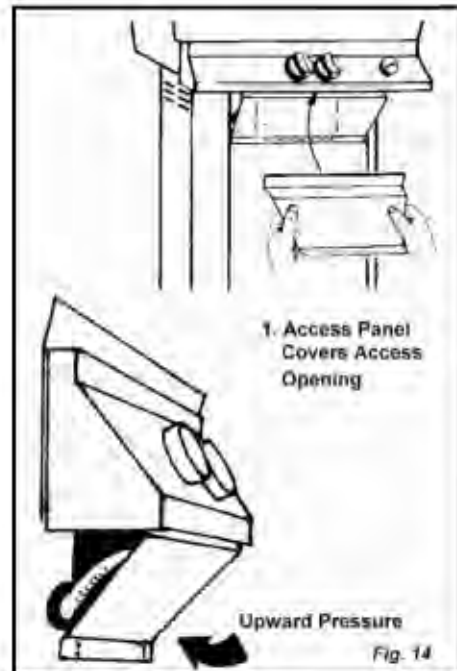

Fig. 14
Step 4: Attaching the Access Panel (Fig. 14)
Then the built-in mounting heat shield must be attached to the bottom of the grill head using four 1/4-20 x 3/4" bolts, see fig. 14 "Complete View" illustration.